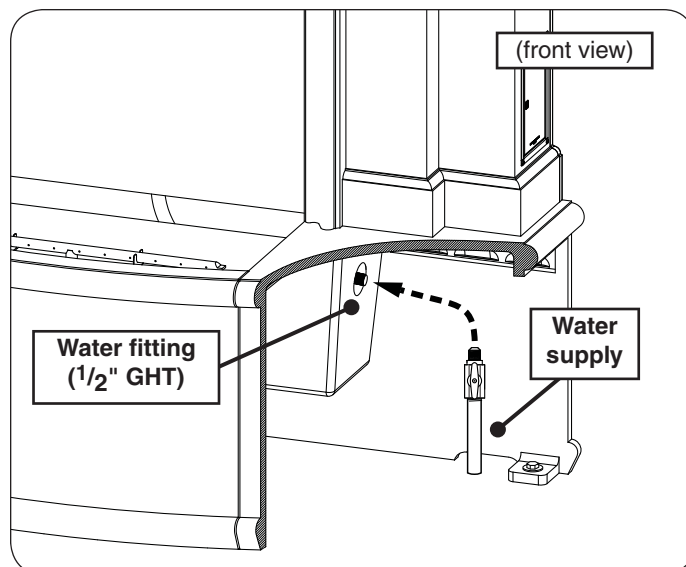

Fig. 24-3 Connect water supply (if applicable)
2. Plumb the water supply to the 1/2" GHT fitting (see Fig. 24-3).